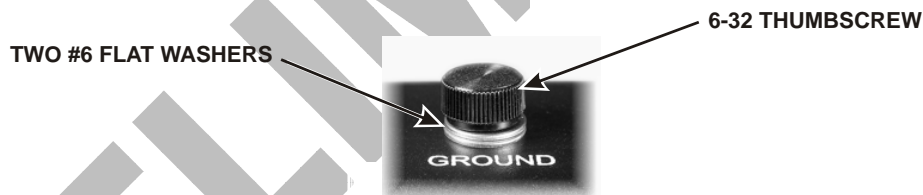

Figure 29. Installing Rear Panel Ground Screw.
- Install the 6-32 thumbscrew into the ground terminal position near the center of the rear panel as shown in Figure 29. Use two #6 flat washers between the thumbscrew and the back panel as shown.